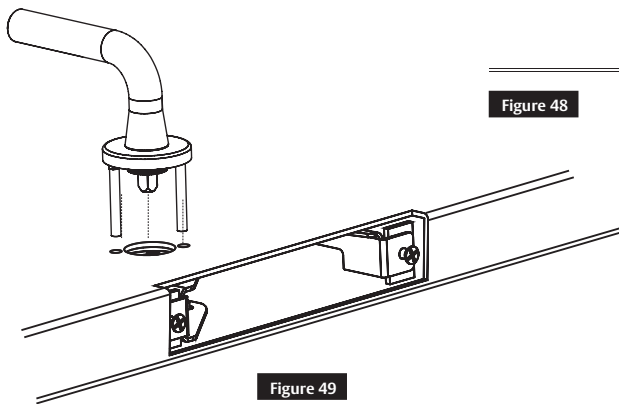
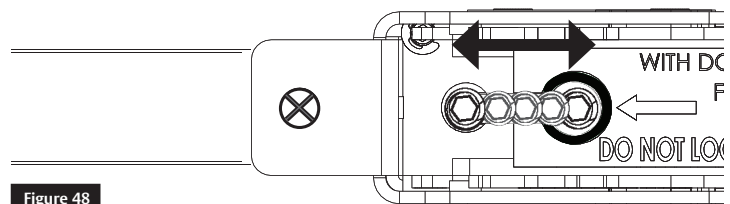

Figure 49
Figure 48
2. Insert mortise trim in the door prep and cassette and rotate to verify latches fully retract (Figure 48). Confirm the set screw moves from circle to circle in the LBC viewing window (Figure 49). Do not install the mortise lock at this time.